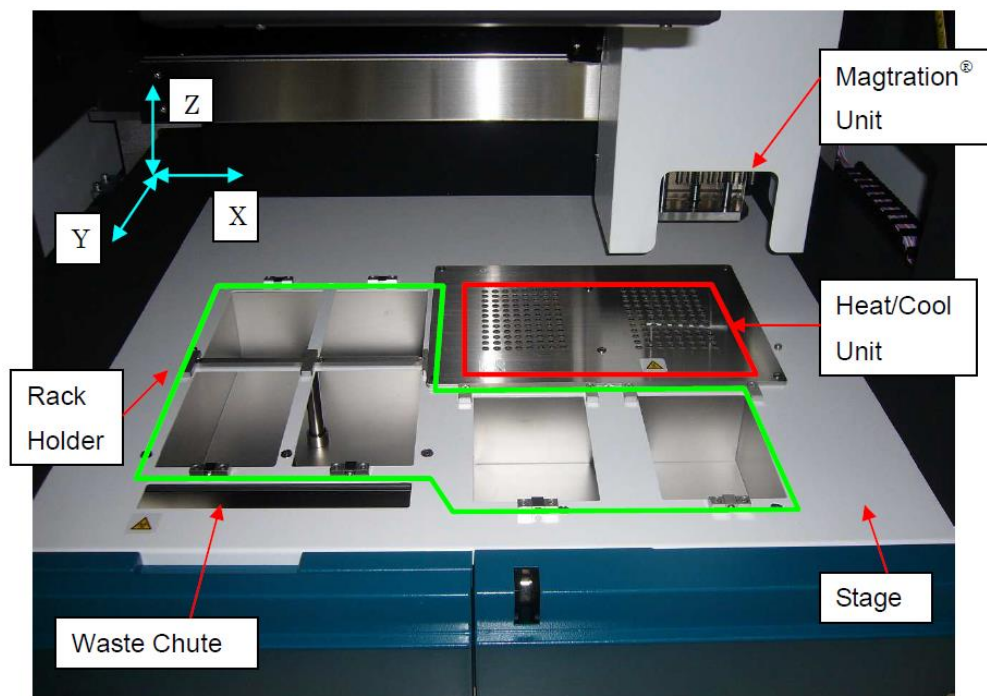

Figure 4. Location of the Magtration Unit and the Stage Unit inside the instrument.
**Heat/Cool Unit:** (indicated by the red box ■ in Figure 4, above)
**Rack Holder:** (indicated by the green box ■ in Figure 4, above)